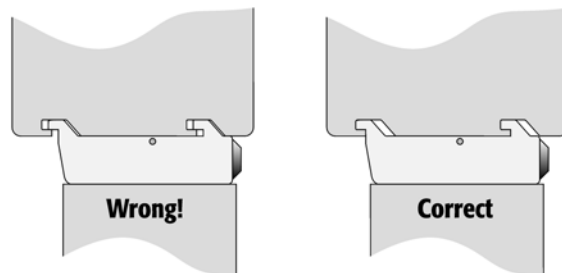

Figure 6. Attachment of Mounting Claws
- 4 Double check if the legs and stack claws are correctly attached to the X Crossrail (see Figure 6, following page).
- 4 Double check if the Stack clamps are correctly attached to the X Crossrail (see Figure 6).